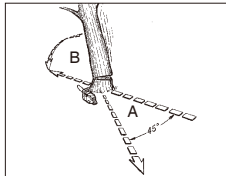

Fig. 11A
⚠ WARNING: A retreat path (A) should be planned and cleared as necessary before cuts are started. The retreat path should extend back and diagonally to the rear of the expected line of fall, as illustrated in Fig.11A.
⚠ WARNING: As the felling cut gets close to the hinge, the tree should begin to fall. When tree begins to fall, remove saw from cut, stop engine, put chain saw down, and leave area along retreat path (Fig.11A).